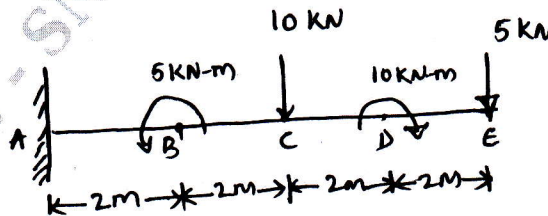

Fig.Q3(b)
- b. Find the reactions at the fixed end and draw SFD and BMD for the Cantilever beam shown in Fig.Q3(b).